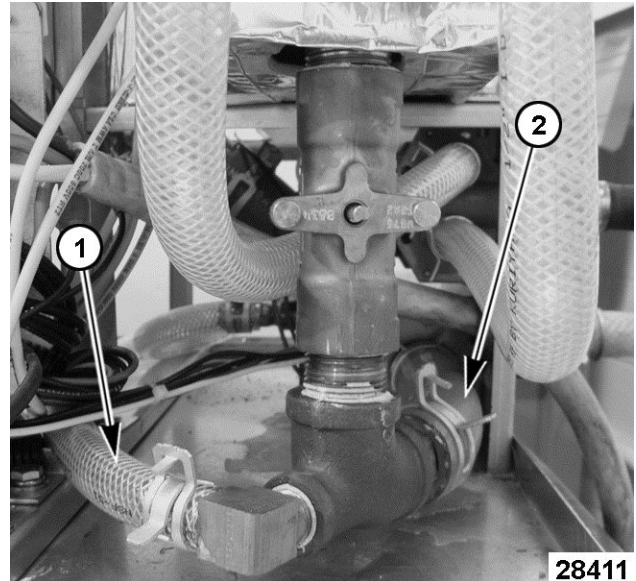

Fig. 86
6. Disconnect drain flush hose [1] Fig. 86 and drain hose [2] Fig. 86 from the pipe tee fittings located below the drain valve.